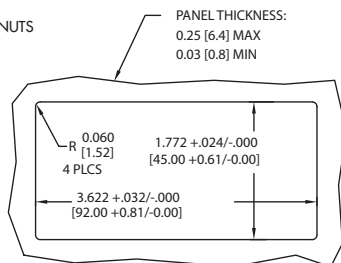

Figure 2.13
1. Using the dimensions from the panel cutout in Figure 2.13, cut an opening in the panel.